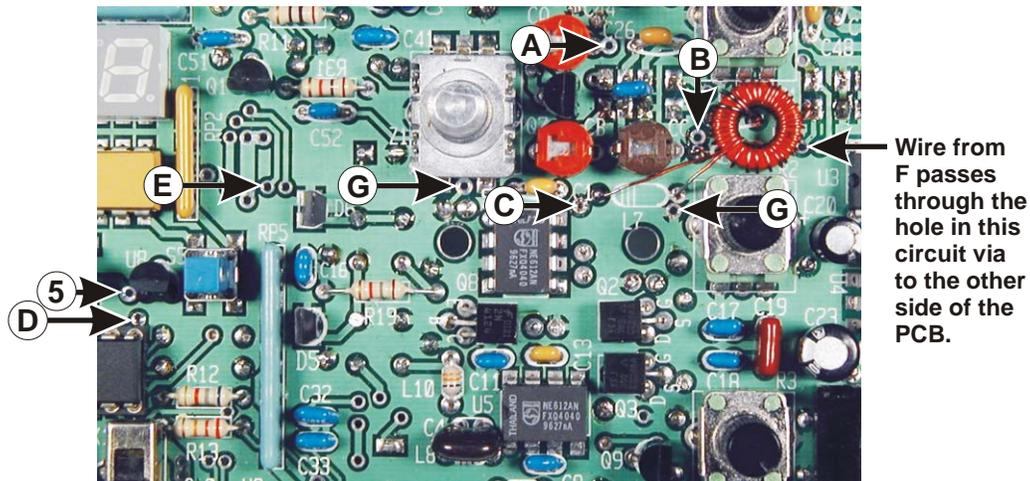
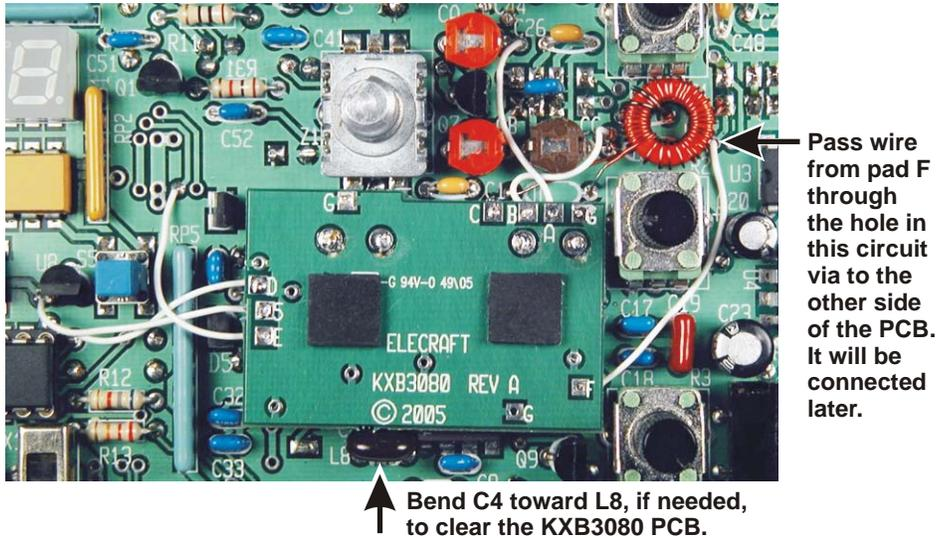

Figure 6. KXB3080 Connection Points on KX1.
Figure 7. Installed KXB3080 PCB.
Position the KXB3080 PCB in place as shown in Figure 7 with the G, C, and G bare wires passing through the solder pads on the KX1 PCB shown in Figure 6. Bend the other wires out to the sides so they do not interfere with positioning the KXB3080 PCB. Pull the bare wires through their solder pads to hold the KXB3080 PCB closely to the top of U6 as possible and so the trimmer capacitor adjustment slots line up with the access holes in the KX1 PCB.
- Route the white Kynar® wire from KXB3080 pad F around potentiometer R2 and through the hole in the circuit via next to T2 as shown in Figure 7. Pull all the excess wire through to the other side of the PCB. It will be connected later.
- Solder the remaining leads to their respective pads as shown in Figure 6.
- Peel the paper packing off of the two rubber pads and affix them to the KXB3080 PCB as shown in Figure 7. The pads ensure the KXB3080 PCB does not touch the top cover when the case is reassembled.